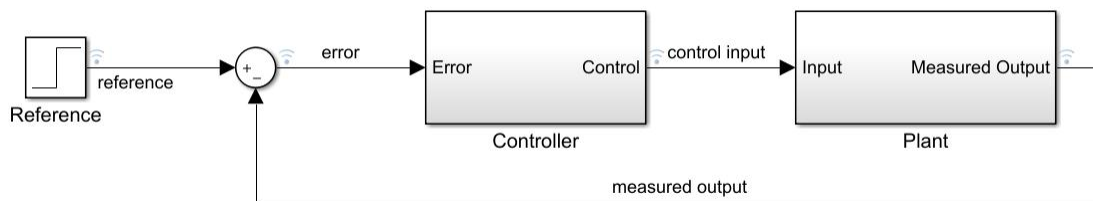

Figure 6: Feedback controller
1. Create a new model from **Feedback Controller** template. The schema is depicted on figure 6.